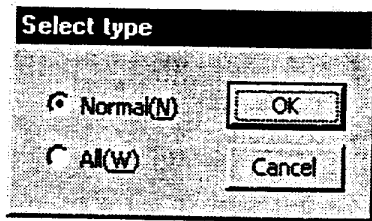

Figure 7.41 “Select type” dialog box
Click “Download (D)” in the “Index Comp” menu to display the “Select type” dialog box (see Figure 7.41).